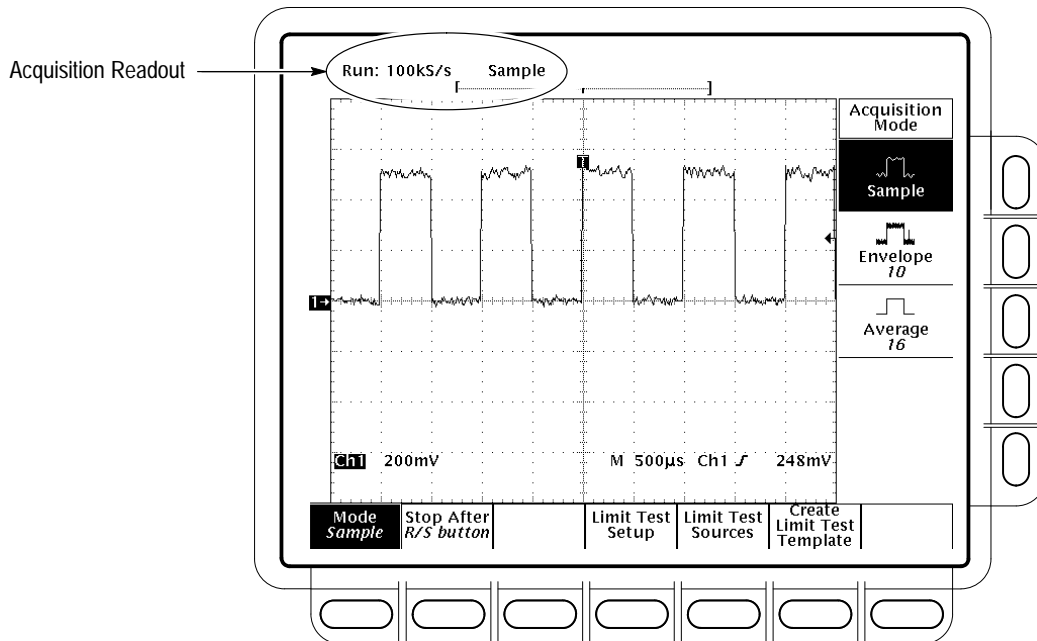

Figure 3–14: Acquisition Menu and Readout
To determine the acquisition sampling rate, the acquisition state (running or stopped), and the acquisition mode, check the Acquisition readout at the top of the display. (See Figure 3–14.) The state “Run:” shows the sample rate and acquisition mode. The state “Stop:” shows the number of acquisitions acquired since the last stop or major change.
1. Press **SHIFT ACQUIRE MENU** → **Mode** (main). (See Figure 3–14.)